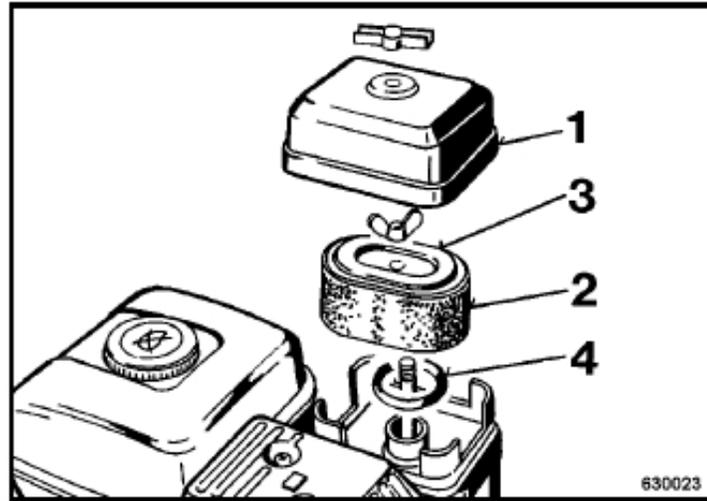
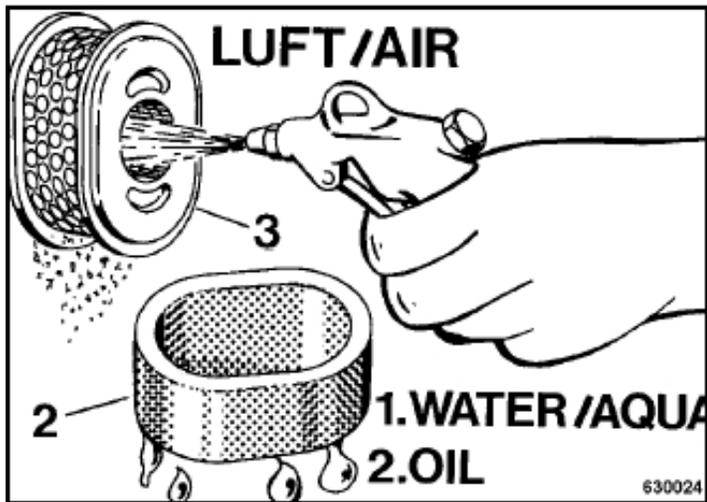

Fig. 26
Fig. 27
- 1 Remove the cover 1 (Fig. 26) and pull the foam insert (2) from the paper insert (3).
- 1 Clean the paper insert 3 (Fig. 27) by tapping it lightly or blowing it carefully out from inside to outside with dry, clean compressed air.
- 1 Wash the foam insert (2) in warm soapy water, rinse it and let it dry thoroughly.
- 1 Check the seal ring 4 (Fig. 26), use a new one if necessary.